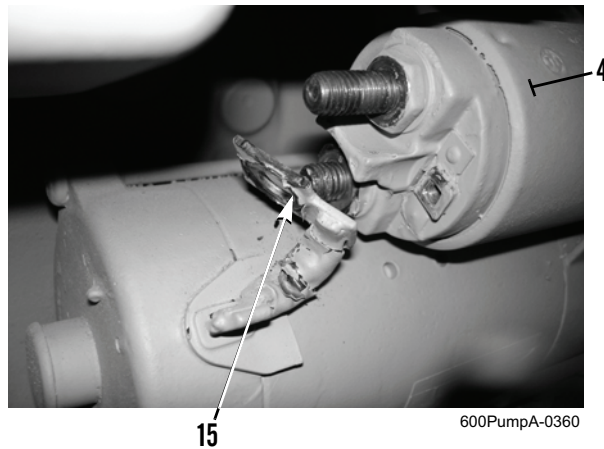

Figure 4. Starter Solenoid and Cable.
6. Remove cable (Figure 4, Item 15) from lower stud of starter solenoid (Figure 4, Item 4).
2. Install cable (Figure 4, Item 15) to lower stud of starter solenoid (Figure 4, Item 4).